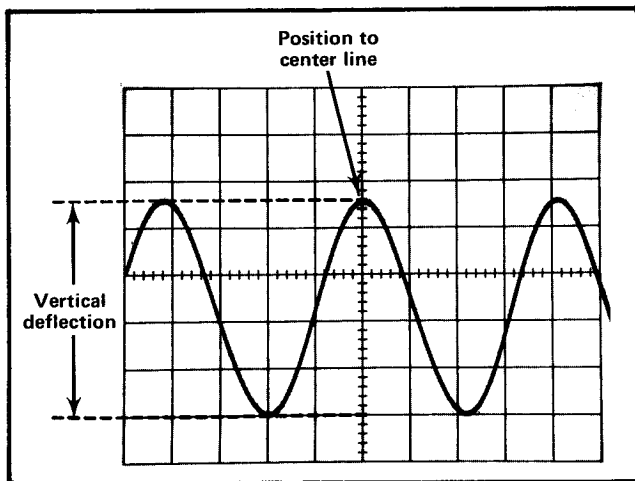

Fig. 2-19. Measuring peak-to-peak voltage of a waveform.
6. Turn the vertical POSITION control so the lower portion of the waveform coincides with one of the graticule lines below the center horizontal line, and the top of the waveform is on the viewing area. Move the display with the horizontal POSITION control, so one of the upper peaks lies near the center vertical line (see Fig. 2-19).
Example. Assume a peak-to-peak vertical deflection of 4.6 divisions (see Fig. 2-19) using a 10X attenuator probe and a VOLTS/DIV switch setting of .5.